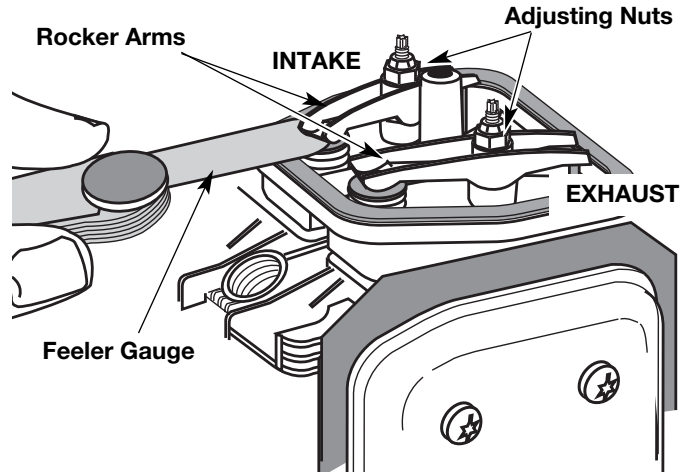

Fig. 37
- Slide the feeler gauge between the rocker arm and the valve return spring. Measure the clearance between the valve stem and rocker arm (Fig. 37). Measure both the intake and exhaust valves.
Use a standard automotive feeler gauge at .005 (0.127mm). The feeler gauge should slide between the rocker arm and valve stem with a slight amount of resistance, without binding. Figures 37 & 38 show how to measure the clearance.